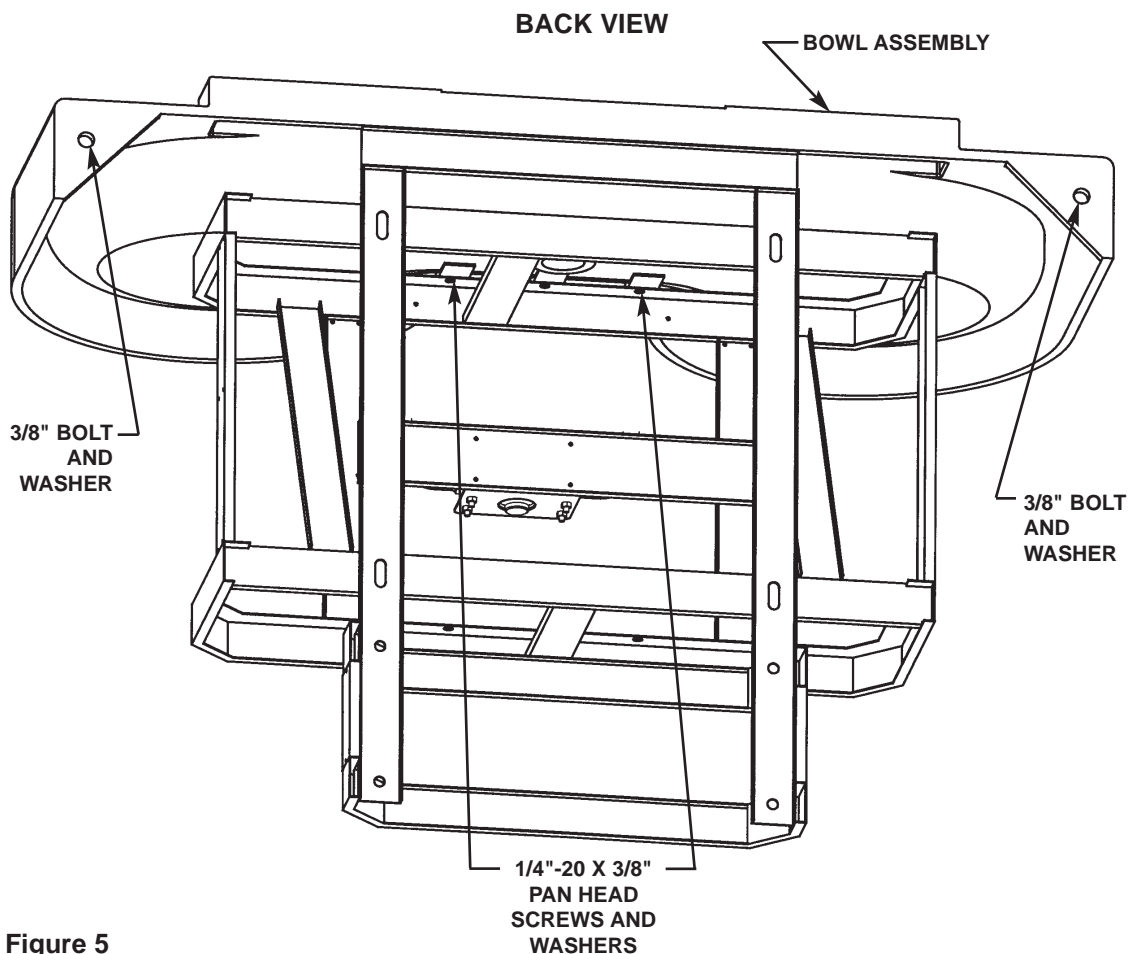

Figure 5
*Note: Refer to Figure 5 below when installing the bowl assembly.*